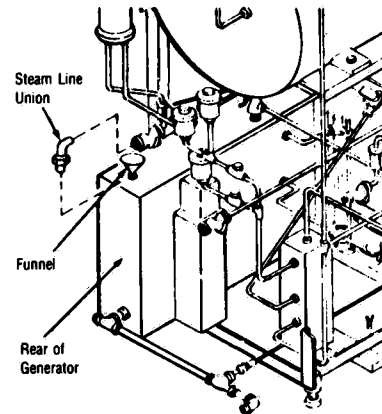

Figure 4-2. CLEANING OPTIONAL STEAM GENERATOR.
Clean steam generator (if supplied with sterilizer) as follows (Fig. 4-2):
4. Turn POWER switch off. Be sure STEAM supply valve is closed (pulled all the way out). Disconnect steam line union (see Fig. 4-2).